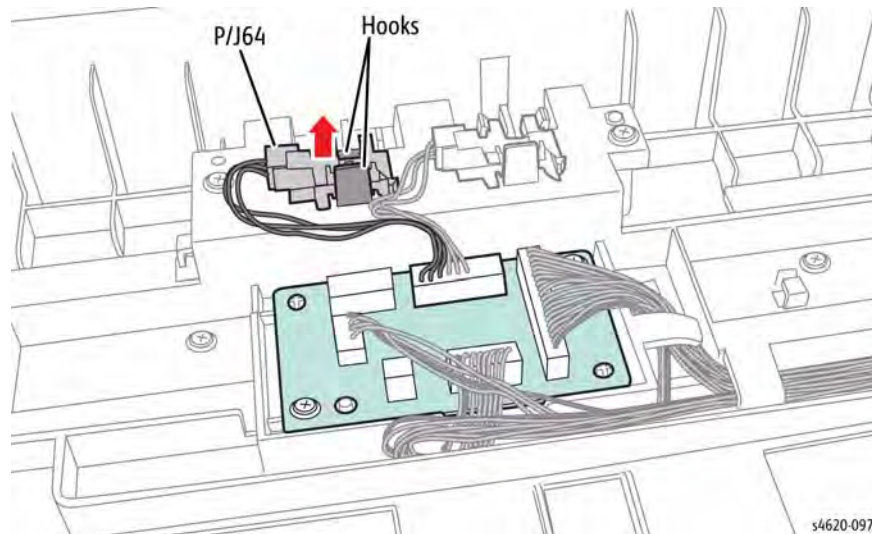

Figure 1 Remove the Feed Sensor
3. Disconnect P/J64 from the Feed Sensor, Figure 1.